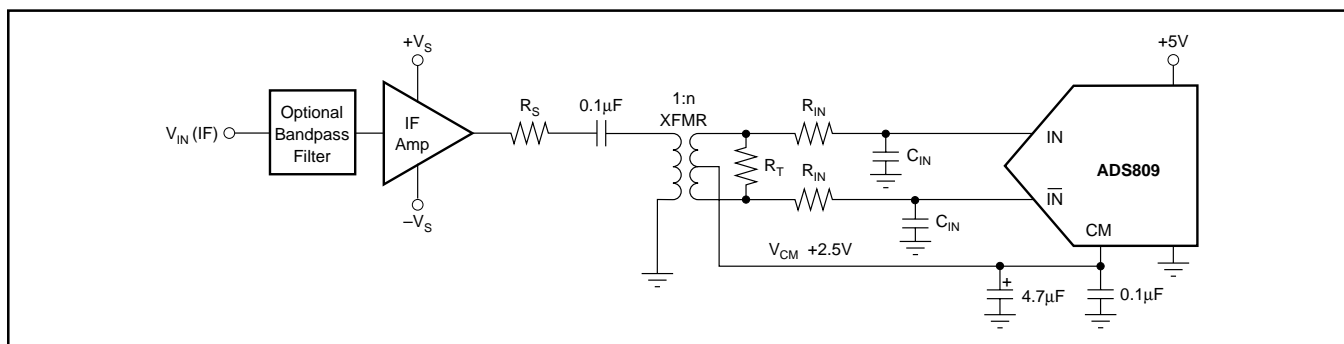

FIGURE 4. Driving the ADS809 with a Low Distortion RF Amplifier and a Transformer Suited for IF Sampling Applications.
One possible interface solution that uses a transformer is given in Figure 4. The input signal is assumed to be an Intermediate Frequency (IF) and bandpass filtered prior to the IF amplifier. Dedicated IF amplifiers, for example the RF2312 or MAR-6, are fixed-gain broadband amplifiers and feature a very high bandwidth, a low-noise figure, and a high intercept point at the expense of high quiescent currents of 50 to 120mA. The IF amplifier may be AC-coupled or directly connected to the primary side of the transformer.
A variety of miniature RF transformers are readily available from different manufacturers, i.e.: Mini-Circuits, Coilcraft, or Trak. For the selection, it is important to carefully examine the application requirements and determine the correct model, the desired impedance ratio, and frequency characteristics. Furthermore, the appropriate model must support the targeted distortion level and should not exhibit any core saturation at full-scale voltage levels. Since the transformer does not appreciably load the ladder, its center tap can be directly tied to the CM pin of the converter (see Figure 4). The value of termination resistor (R_T) should be chosen to satisfy the termination requirements of the source impedance (R_S). It can be calculated using the equation $R_T = n^2 \cdot R_S$ to ensure proper impedance matching.